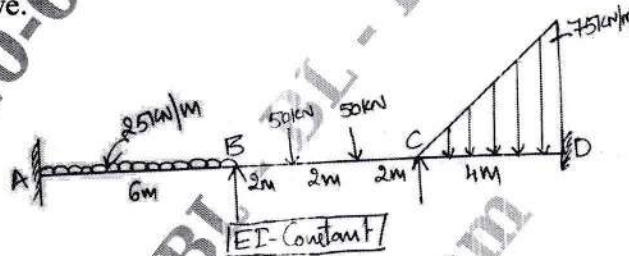

Fig.Q5
- 5 Analyse the three span continuous beam shown in Fig.Q5 by Kani's method. Draw BMD, SFD and Elastic curve.